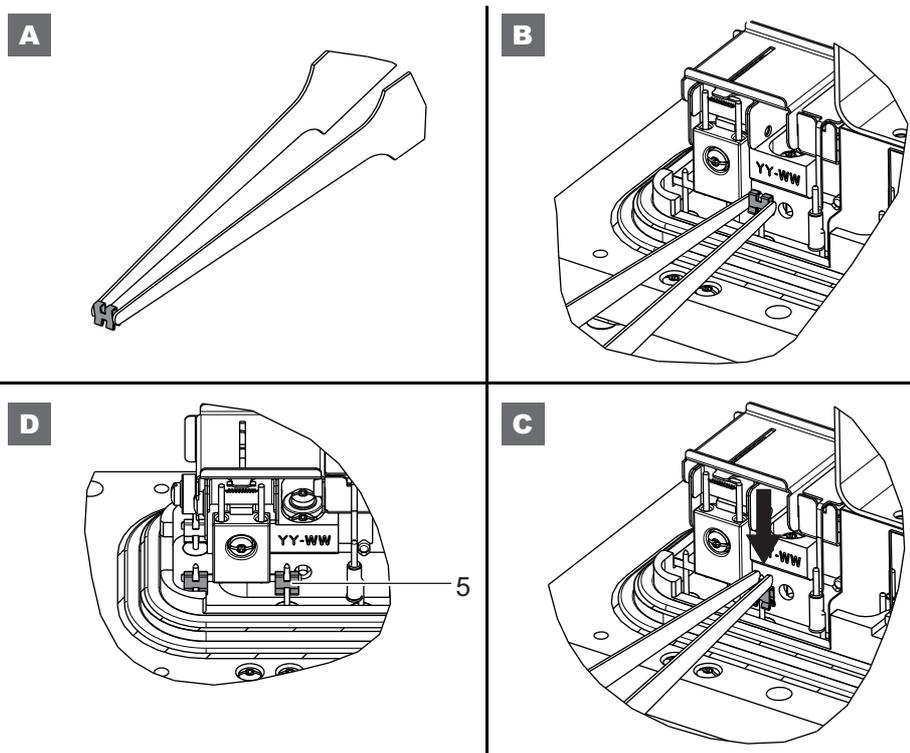

Fig. 10: Fitting of the fastening clip
- Fit the new filament in its housing against the 2 centring stops (7). Attach it with the screw (4) and washer supplied with the filament, using the Torx® screwdriver.
- Take a fastening clip (5) with the flat pliers: this clip will ensure electrical contact between the filament and the cell (A Fig. 10).
- Fit the clip on the connector (6) and on the strip of the filament (8) (B Fig. 10).
- Push in the clip with the pliers until it stops (C Fig. 10).